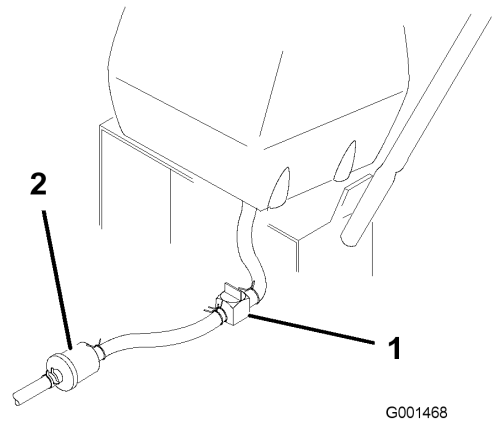

Figure 31
2. Close the fuel shut-off valve at the fuel tank (Figure 31).
3. Squeeze the ends of the hose clamp together and slide it up the fuel line away from fuel filter (Figure 31).
4. Pull the fuel line off the fuel filter (Figure 31). Open the fuel shut-off valve and allow the gasoline to drain into a gas can or drain pan.
3. Close fuel shut-off valve at the fuel tank (Figure 31).
7. Open fuel shut-off valve at fuel tank (Figure 31).